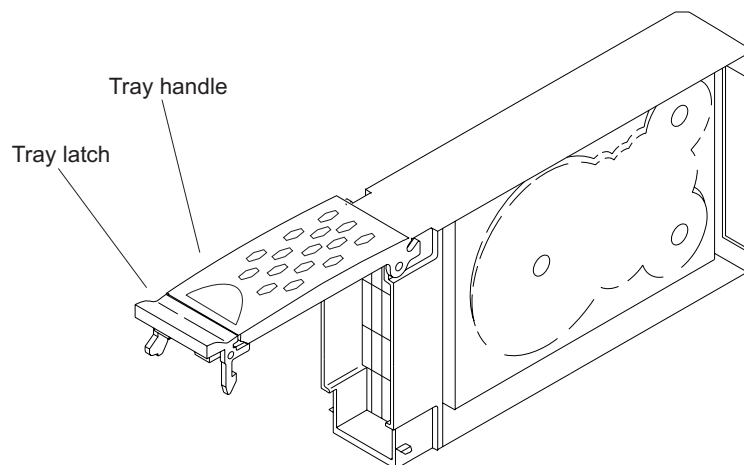

Figure 44. Drive CRU handle
- b. Pull the handle on the tray out so that it is in the open position, as shown in Figure 44 on page 78.
- a. Release the latch on the drive CRU by pinching together the blue line on the tray latch and the finger hole on the tray handle, as shown by the arrow in Figure 44 on page 78.